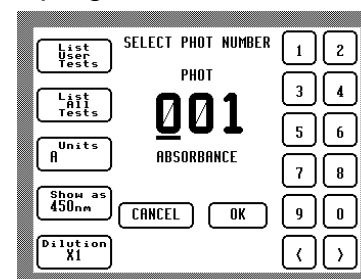

Fig 5 – Test Selection Screen
- Touch the central panel where the test name is displayed to enter the 'Test Selection' screen (See Fig 5).